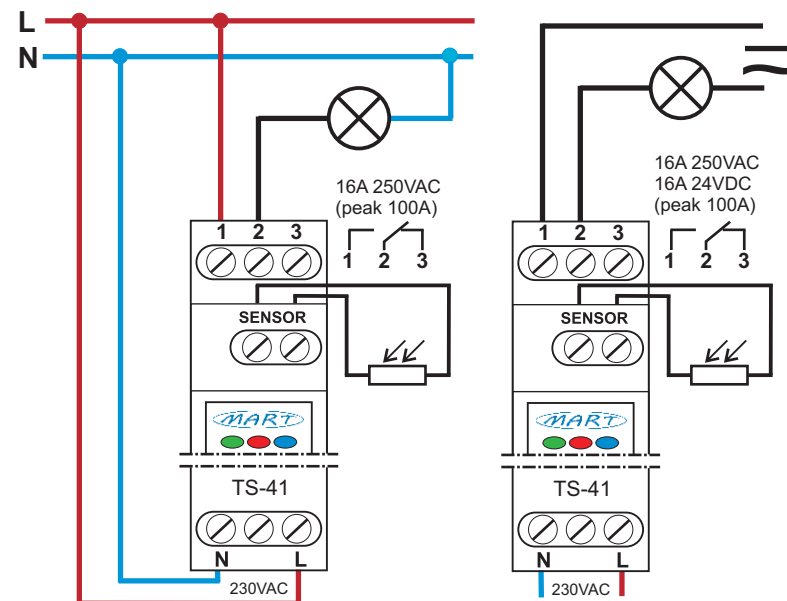

Fig. 2.: Connection diagrams for the TS-41-2 TWILIGHT SWITCH automatic device.
3. Connect the wires in accordance with the diagram (Fig. 2)